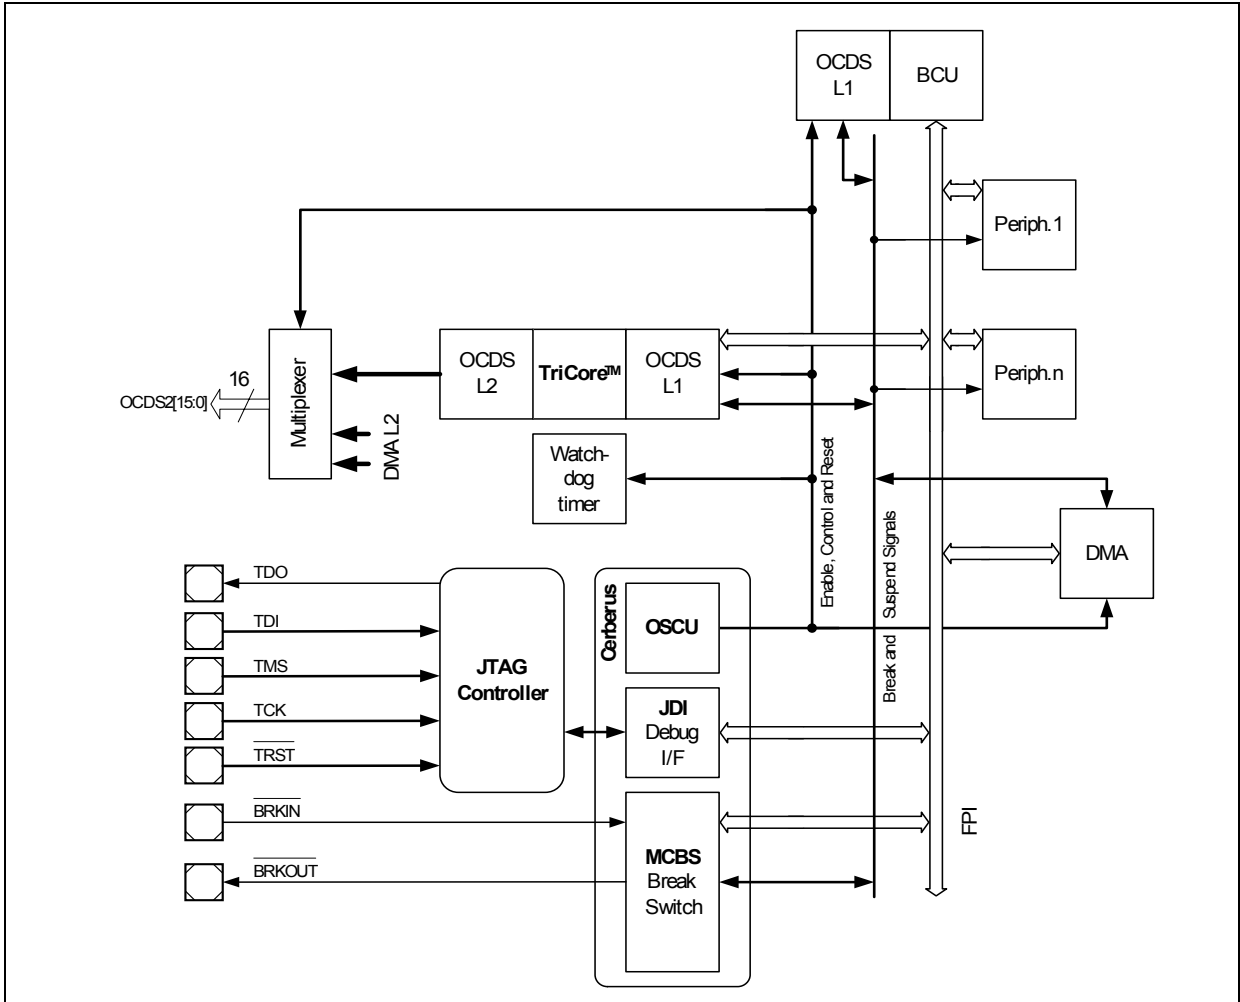

Figure 3-12 OCDS Support Basic Block Diagram
**Figure 3-12** shows a basic block diagram of the building blocks.